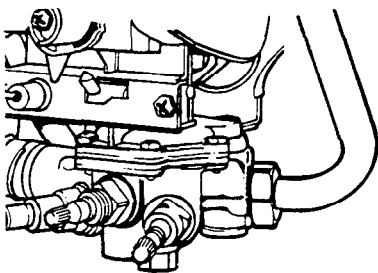

Fig.17
b) Unscrew the six screws (A) which hold the water section position to the gas section (see fig. 17).